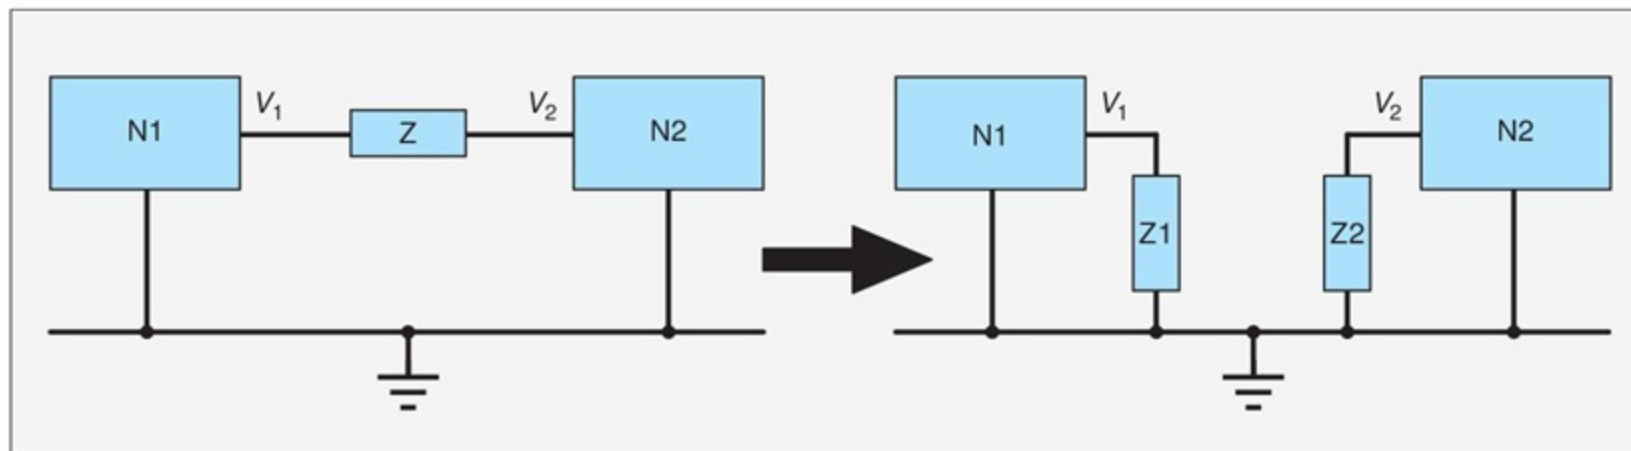

Fig.11. The Miller theorem.
Before discussing the effect of these capacitances on the amplifier circuits we need to look a piece of circuit theory called the Miller theorem. This relates to removing an impedance (Z), which is bridging two parts of a linear circuit network (N_1 and N_2) and replacing it with two impedances (Z_1 and Z_2) which are each connected to only one side of the 'bridge' (see Fig.11). The circuit is linear, so the two voltages are related by $V_2 = KV_1$ (we can think of K as being the gain or attenuation that the circuit has between these two points). The new circuit is equivalent to the original in that the voltages and currents in N_1 and N_2 remain the same. The theorem provides the values of Z_1 and Z_2 in relation to Z and K , specifically: